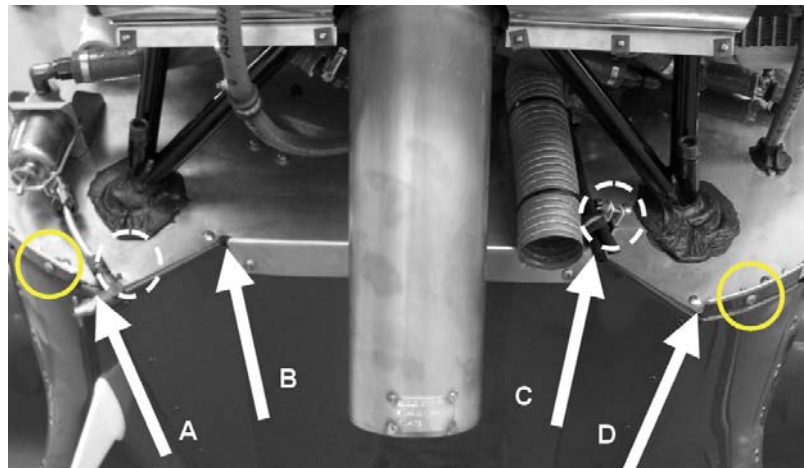

Figure 13 Forward View on Bottom Side Firewall
Position A and D of Figure 13, where different parts converge (firewall, aluminium profile, bottom fuselage cover and exhaust area covering sheet). Position B and C, where a bent corner ends in a bore hole.
- 5 Install bottom cowling attachment screws (one on either side) without cowling present (see two outer circles in Figure 13).
- 8 Clean areas (from inside and outside) with solvents at four positions pointed out by the arrows in Figure 13. Immediately thereafter, dry these areas with a new dry cloth.